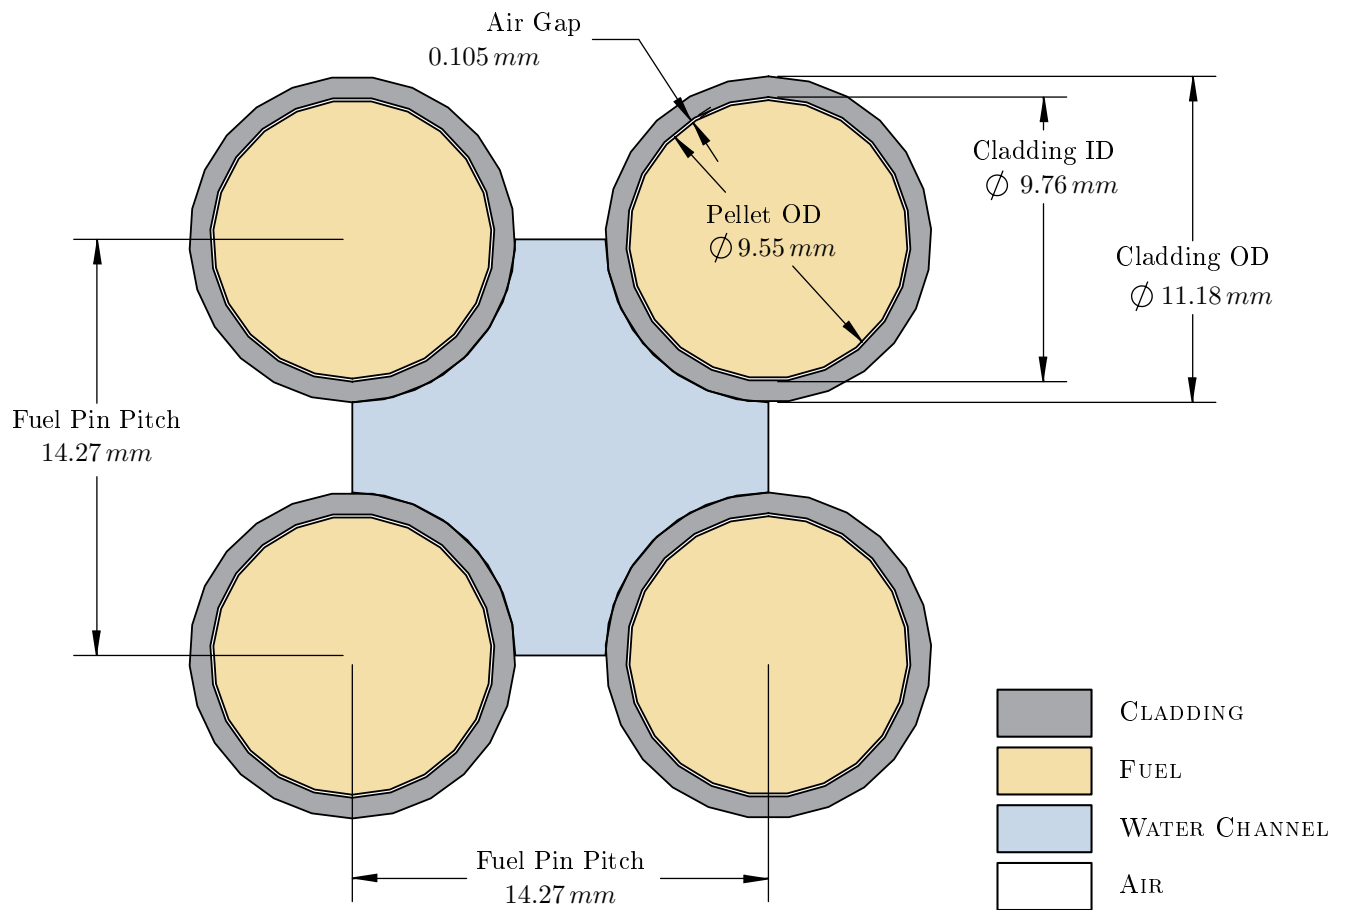

Figure 1: Radial Dimensions and Spacing of 4 Fuel Pins in GE 9x9 BWR Core
**Fuel Pin Radial Dimensions and Setup** As listed in the MIT Document provided by Connor [1, p. 9], the setup for the water channel and fuel pin radially is shown in Figure 1. Note that the simulation will only solve one water channel for the drift flux simulation, and one fuel pin for the diffusion simulation. It is likely that we will not be able to incorporate air gaps.